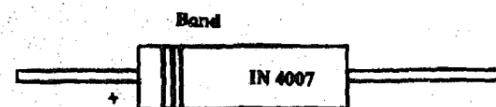

Fig.3.4
- (a) A band at one end of the diode indicates cathode (e.g. IN4007) as shown in Fig.3.4.